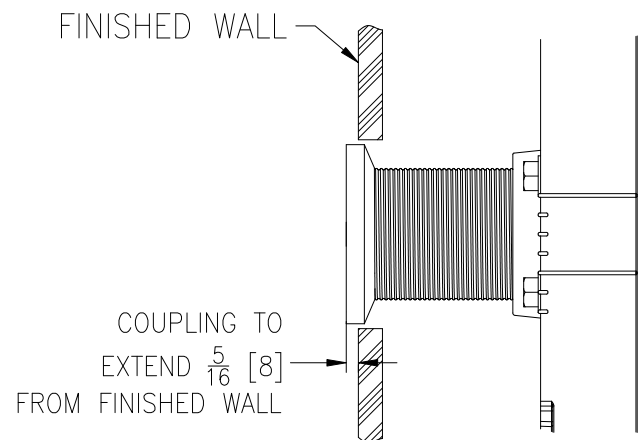

Fig. 10a
Adjust the coupling to extend $\frac{5}{16}$ " [8mm] from the finished wall. Ensure the coupling threads are protected from debris adhesion to allow adjustment after the wall is in place. If the coupling must be shortened, cut from the threaded end. Prevent damage to the o-ring by chamfering the cut end and thoroughly deburring. See Fig. 10a
- b. EZ-Set™ Coupling (Z) - Thread the coupling into the faceplate by hand until it engages the o-ring and begins to resist. Using a strap or pipe wrench, continue to turn the coupling into the o-ring to create a water-tight seal. Ensure the protective sleeve is flush with the test cap. See Fig. 10a & 10b